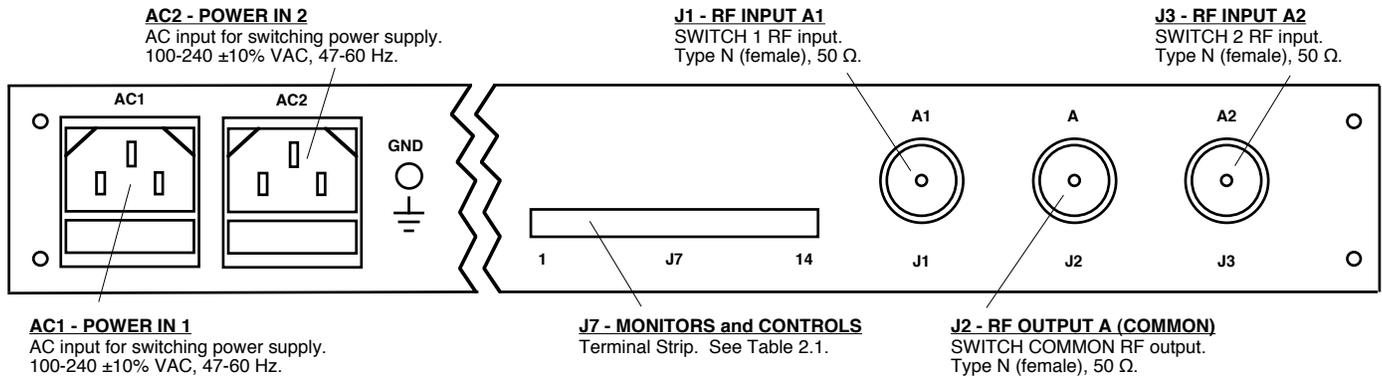

FIGURE 2.2 1582-650 RF Switch Rear Panel Inputs/Outputs
2.2 Input and Output Signals - Figure 2.2 shows the input and output connectors on the rear panel.
4. Connect to signals on the MONITORS AND CONTROLS connector, J7, as desired, (see Figure 2.2, Table 2.1).